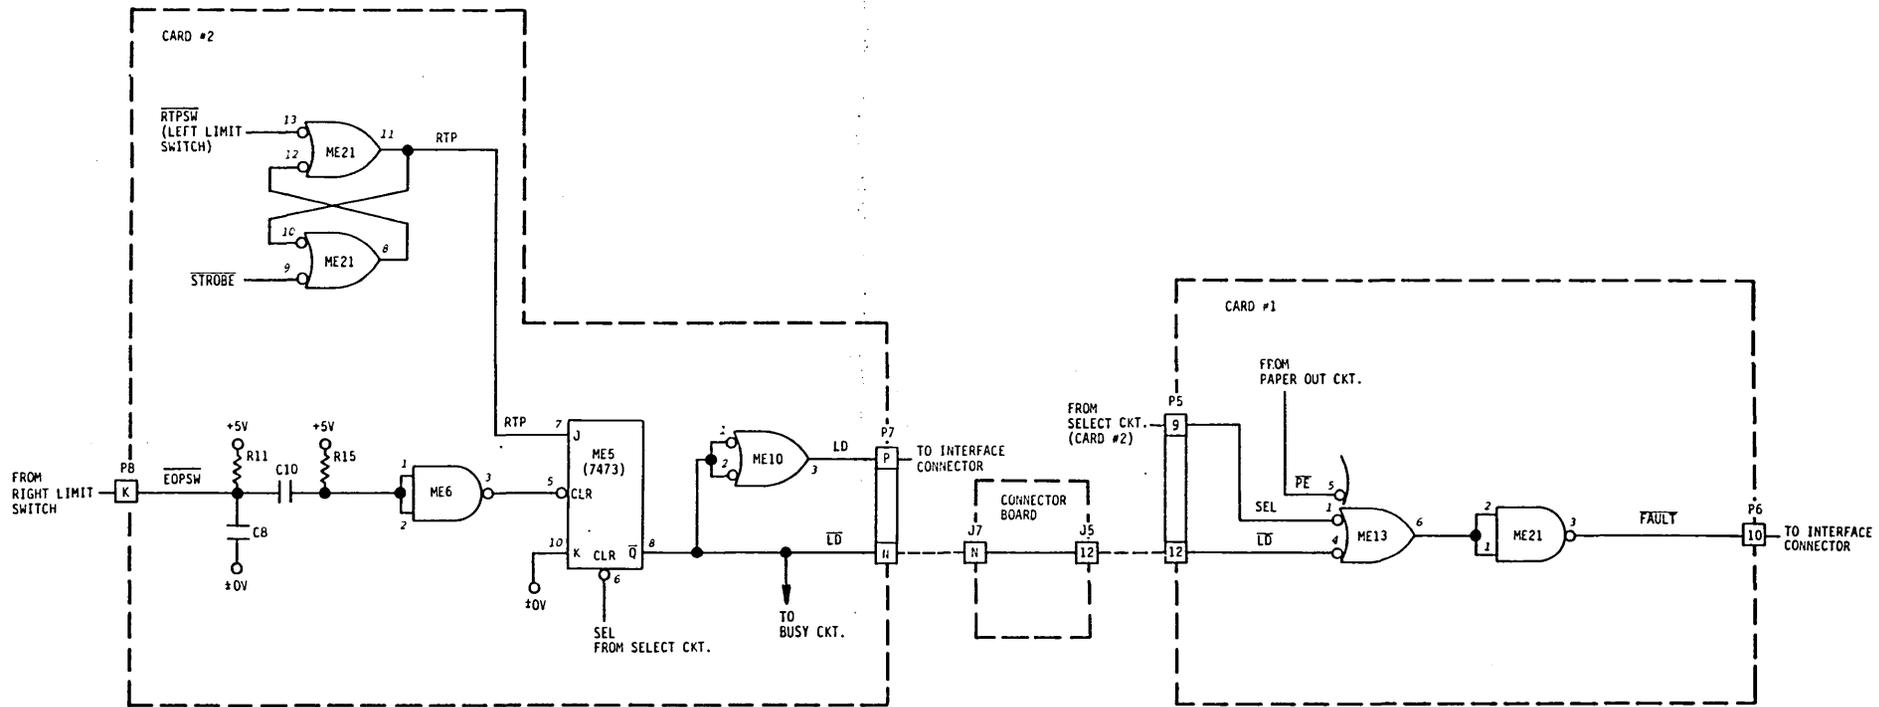

Figure 4-30. FAULT CIRCUIT
4.7.5 FAULT CIRCUIT (Figure 4-30)